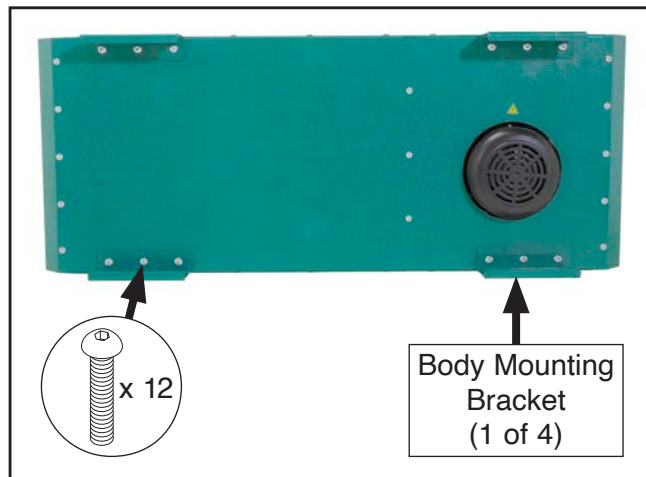

Figure 18. Body mounting brackets attached to machine body.
1. Attach (4) body mounting brackets to machine body with (12) pre-installed button head cap screws, as shown in **Figure 18**.